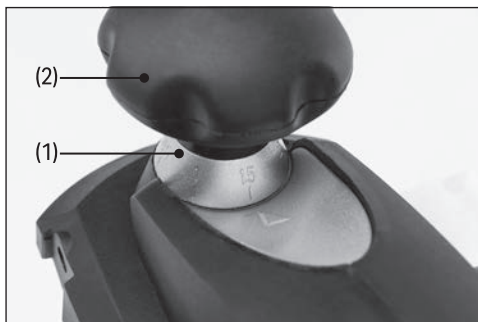

Fig. 2
6.2 Cutting Depth Adjustment (Fig.2)
- Use the cutting depth adjustment knob (2) to gradually change the cutting depth (0 – 2mm) as indicated on the cutting depth scale (1).